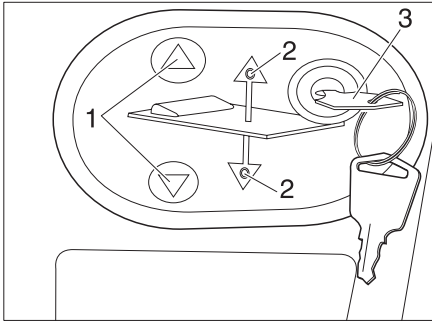

Fig. 100 Operating panel for the electrical pull-down bed
- ▶ Insert the key (Fig. 100,3) into the operating panel.
- ▶ Press the ▼ or ▲ (Fig. 100,1) button and keep it pressed.
The respective LED (Fig. 100,2) lights up and the pull-down bed moves down or up.
- ▶ When the desired position has been reached, release the ▼ or ▲ (Fig. 100,1) button again. The respective LED (Fig. 100,2) extinguishes.
- ▶ Remove the key (Fig. 100,3).